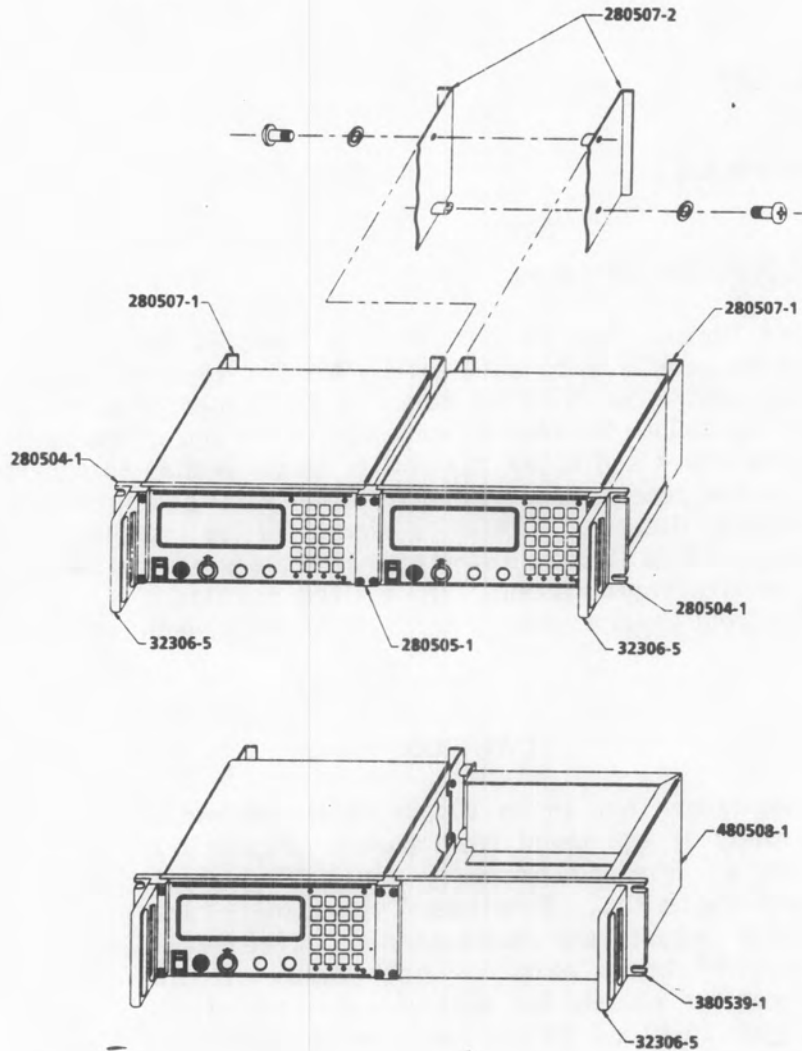

Figure 2-1. WJ-9548 Configuration of Rack Mounting Accessories
- 3) Fixed Rack Mounting Hardware (See **Figure 2-1**)
The WJ-9548 Digital FDM Demultiplexer is designed for mounting in a half-rack configuration. Two units, mounted side-by-side, satisfy the full 19-inch front panel requirement for a standard equipment rack. The WJ-9548 occupies 3.5 inches of vertical rack space and extends approximately 21 inches into the rack as measured to the tips of the rear panel protective handles. A 1.75-inch space above and below the unit is recommended to provide for forced air convection. Access to the rear panel is recommended so that input and output connections can be made or changed conveniently, if desired. Refer to **Figure 2-1** for installing equipment utilizing furnished mounting hardware. This figure illustrates the methods and hardware required to rack mount single and dual receiver configurations into a fixed position. All illustrated accessory items, except for the false front panel assembly, are furnished with each receiver.
Units are not to be supported within racks solely by equipment front panels. **Figure 2-1** shows how to properly fix rack mount alternatively. Jonathan Type 110QD-20-2 slide mounts are recommended. Three pre-tapped holes exist on both sides of the receiver chassis for slide mount installation. Type 10-32 x 5/16 pan head screws (MS51958-60) are to be used.